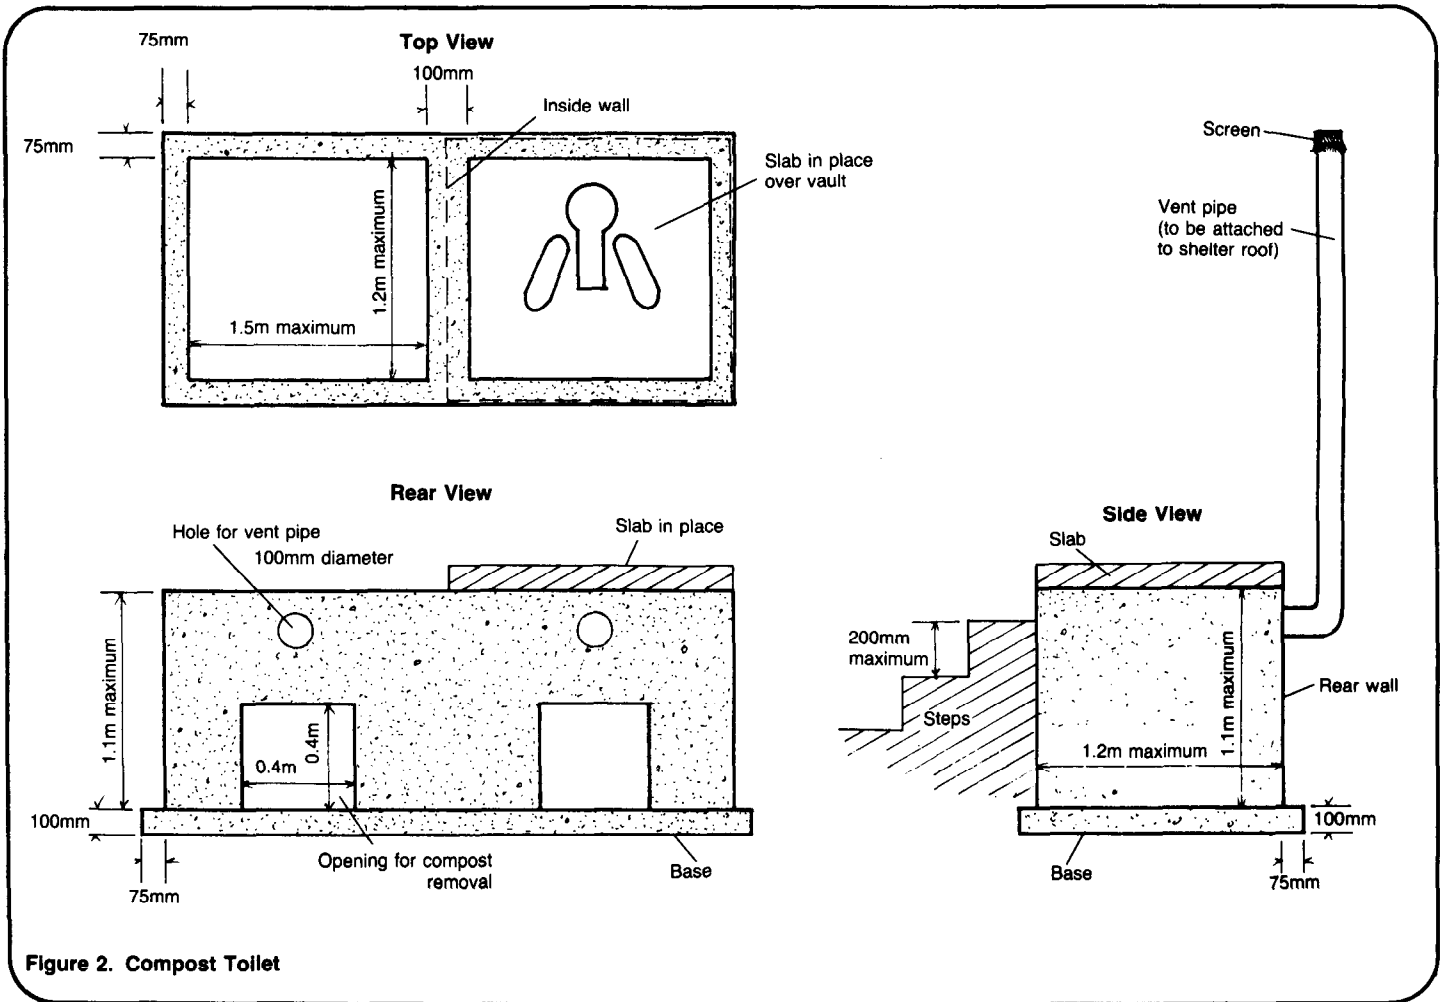

Figure 2. Compost Toilet
2. Design drawings similar to Figure 2.